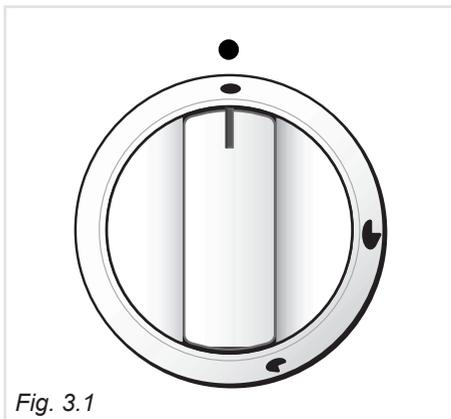
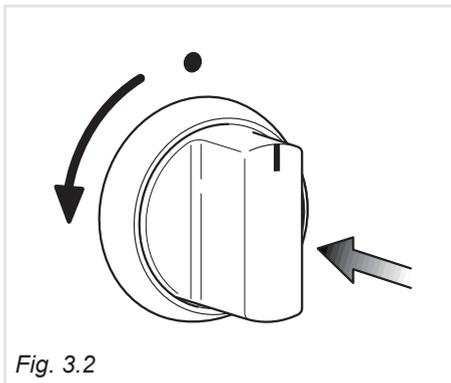

Fig. 3.1
Fig. 3.2
Each burner is controlled by a gas tap (fig. 3.1) assuring the opening and the closing of the gas supply.
1. Press in the corresponding knob and turn counter-clockwise (fig. 3.2) to the full flame position marked by the symbol (fig. 3.1).